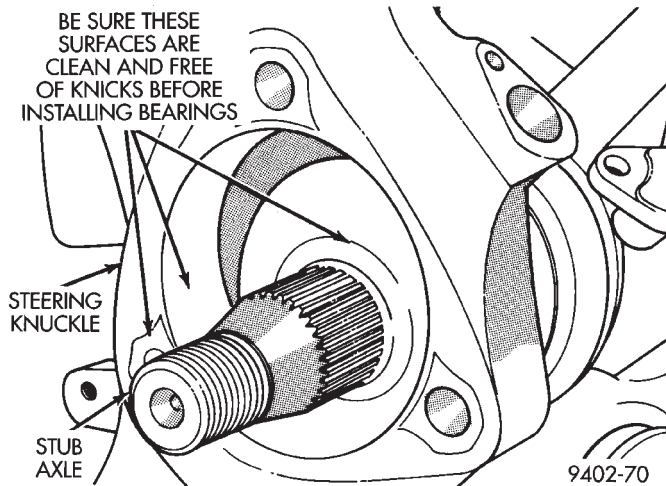

**Fig. 36 Hub And Bearing Mounting Surfaces**
**CAUTION:** Hub and bearing assembly mounting surfaces on steering knuckle and driveshaft (Fig. 36) must be smooth and completely free of foreign material or nicks.